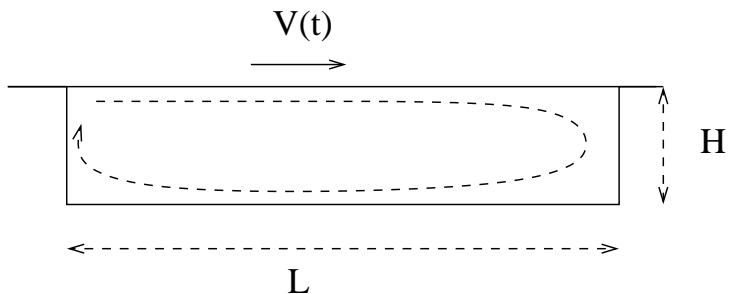

Figure 2: Flow in a thin slot due to a moving wall.
1. Consider a long and narrow channel two - dimensional of length  $L$  and height  $H$ , where  $H \ll L$ , as shown in figure 2. The ends of the